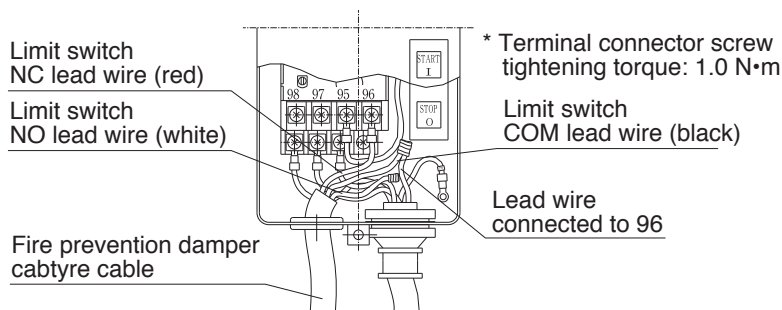

Fig.27. Wiring example when using the optional switch
- b. Open the optional switch (Item name: 3SW-○○○) cover and plug the fire prevention damper's cabtyre cable into the position shown in Fig.27. (Take cable locking measures to prevent the cable from being pulled.)